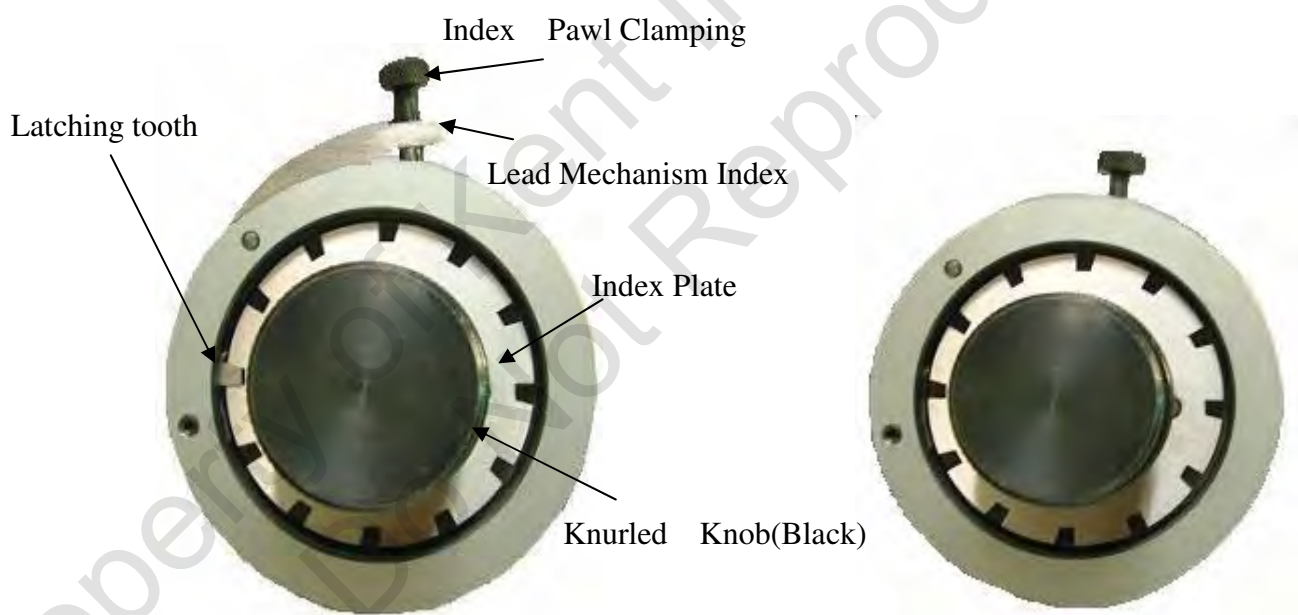

Fig 4-8 Index Latching/Unlatching
The detent type indexing mechanism consists of an index plate on the rear of the work-head spindle and a spring loaded index pawl on a pivot in the cutter ring. See Fig 4-8.
(0,8, 10 and 12 equally spaced notches are supplied with the machine, additional plates with 15, 18, 20, 22, 24 or 28 positions are available at extra cost). The **zero plate** is used for cutting the special tool depends on customer design. To interchange plates, unscrew the knurled clamping knob on the rear of the work-head spindle and remove it and the plate. See Fig 4-8. Replace with desired plate. For jobs on which the lead generating mechanism will not be used, the index pawl must be disengaged from the notched plate. This disengages the work-head spindle from the lead generating mechanism and permits the spindle to be freely rotated. Simply depress the knob on the exposed end of the pawl; rotate the knob a quarter of a turn, and release. The pawl will remain disengaged.
2. Measure the approximate helical angle (β) of tool and the O.D (D) of the tool.
4. Loosen the index pawl latch knob and latch the index plate. Refer to Fig 4-8 and section 4-9-2.